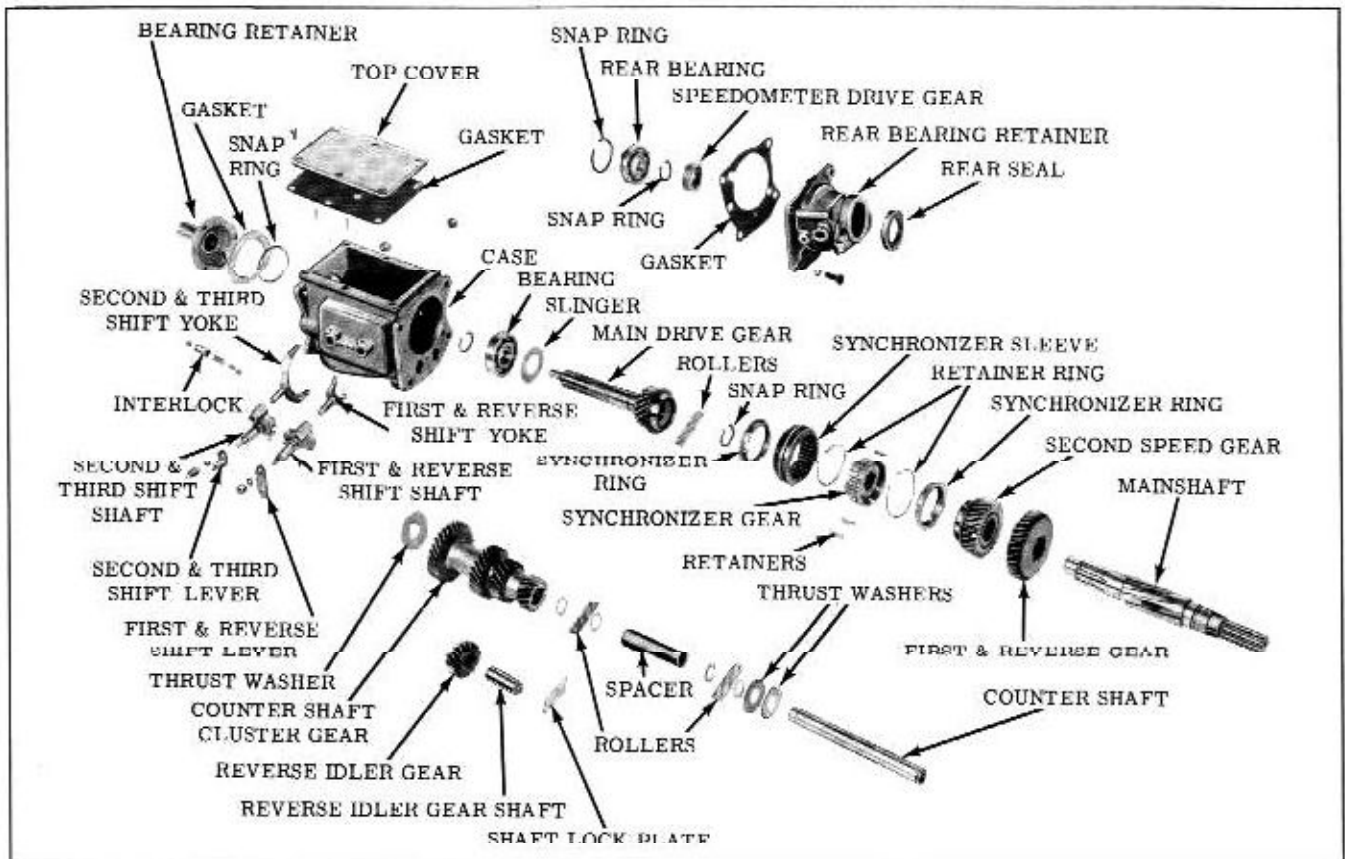

Fig. 10-15 Syncro-Mesh Transmission - Exploded View
14. Position reverse idler gear in case with relieved end of gear teeth towards front of transmission. (Fig. 10-15)